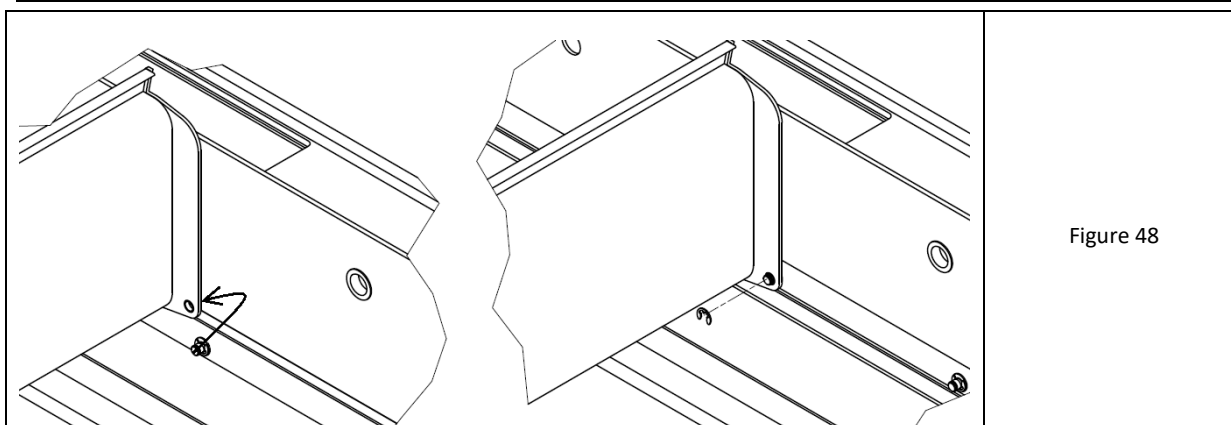

Figure 48
14. Lift the rod to the level of the lower hole in the blade drive end cap and apply it from the outside (between the end cap and the beam) to the side of the drive end cap (fig. 48-left).
15. Push the protruding end of the pin from the rod into the hole of the blade cap (fig. 48-right). When pressing in, be careful not to push the slip ring out of the end cap.
16. Secure the visible end of the pin with a small snap-ring exactly in the outermost groove of the pin (fig. 48) - use the dedicated tool.